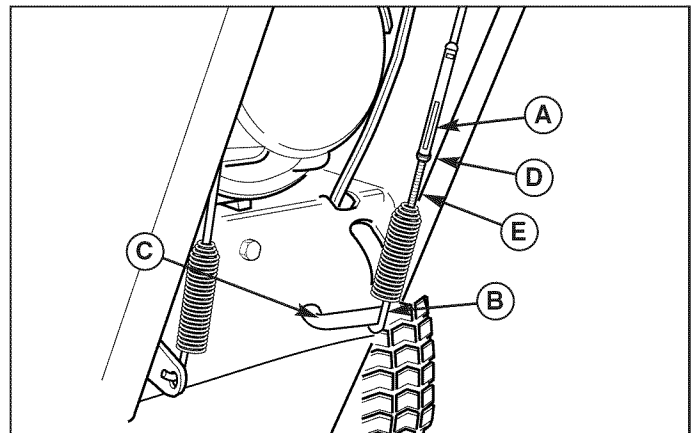

Figure 19. Auger Drive Adjustment (Tube Handle Models)
1. With the drive lever released, the hook (B, Figure 19) should barely touch the lever (C) without raising it. There can be a maximum 1/32" clearance as shown.
2. To adjust, loosen nut (D, Figure 19) by holding the adjusting flats (A) and turning nut (D). Turn adjustment flats and hold screw. The adjustment screw is a phillips screw and the head can be held or turned by inserting a screwdriver through the spring.
3. Hold adjusting flats (A) and tighten nut (D).